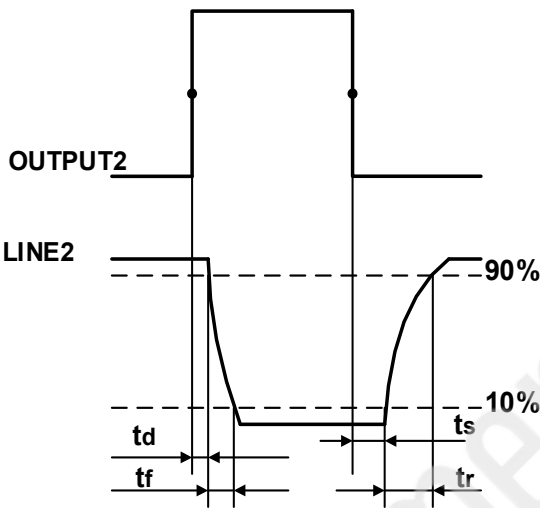

Figure 7-12 Parameter of Line2 output circuit (GigE)
- Rising time delay = $t_r + t_d$: < 20 μs (0 °C ~ 45 °C) (parameter description as shown in Figure 7-12)
- Falling time delay = $t_s + t_f$: < 20 μs (0 °C ~ 45 °C) (parameter description as shown in Figure 7-12)